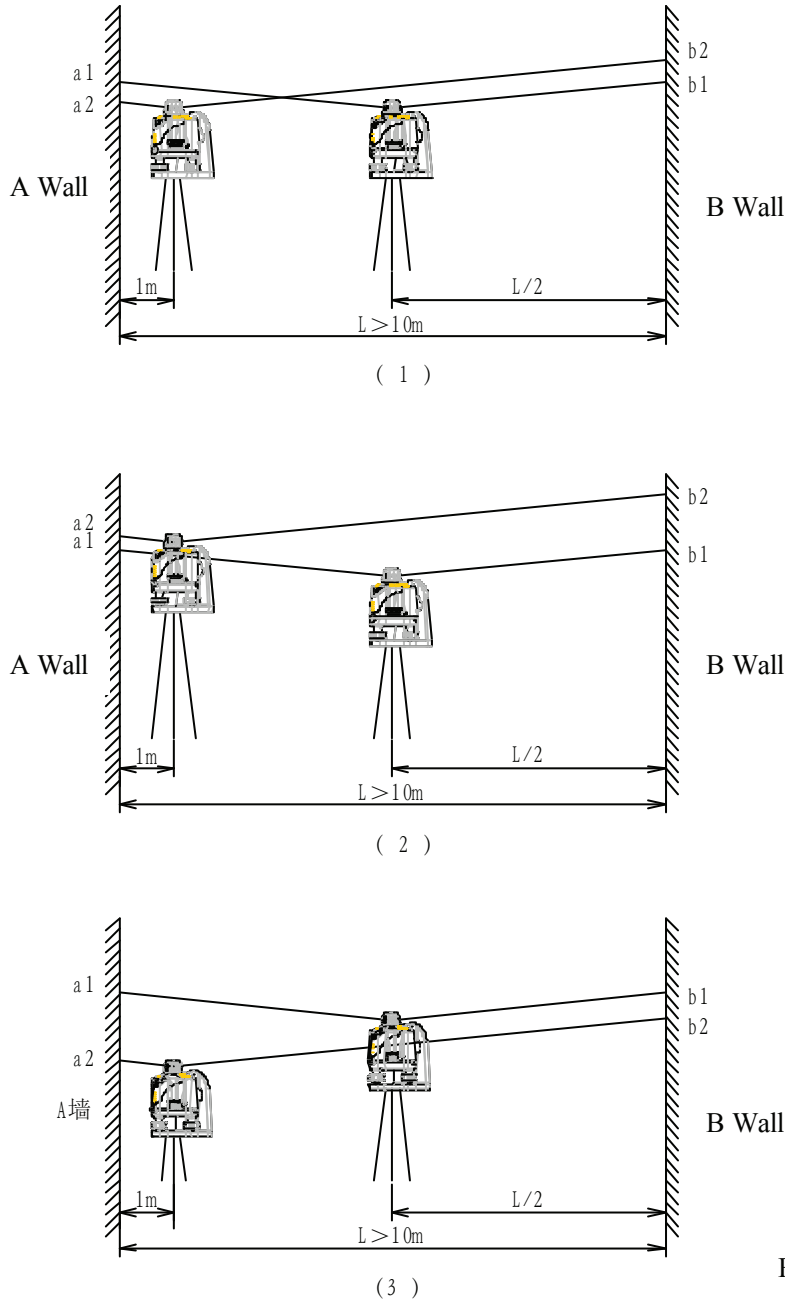

FIG. 8
- As shown in FIG. 8, take two parallel walls A and B, between which the distance is 10m. Place the instrument on the tripod, which is in the middle of the wall A and B;
(There will be three situations as shown in FIG. 8.) Mark the cross points of the instrument rotating beam on the wall A and B with the vertical line drew on the wall A and B as a2 and b2 respectively;
- f) Measure the distance L_a between a1 and a2, the distance L_b between b1 and b2. If $(L_a+L_b)/L$ (as FIG. 8 (1)), $(L_b-L_a)/L$ (as FIG. 8 (2)) or $(L_a-L_b)/L$ (as FIG. 8 (3)) $>0.3\text{mm}$, the instrument needs calibrating.
Place the instrument in the middle of the two walls, and level the X and Y-direction vial, by adjusting the tripod height, make the rotating beam to be under the state as shown in FIG. 8(1) meanwhile $L_a=L_b$; adjust the optical wedge seat inside the rotating laser emitting window to make the rotating beam to cross the vertical line at point a2; then repeat self-check and calibration until the accuracy meets the request.